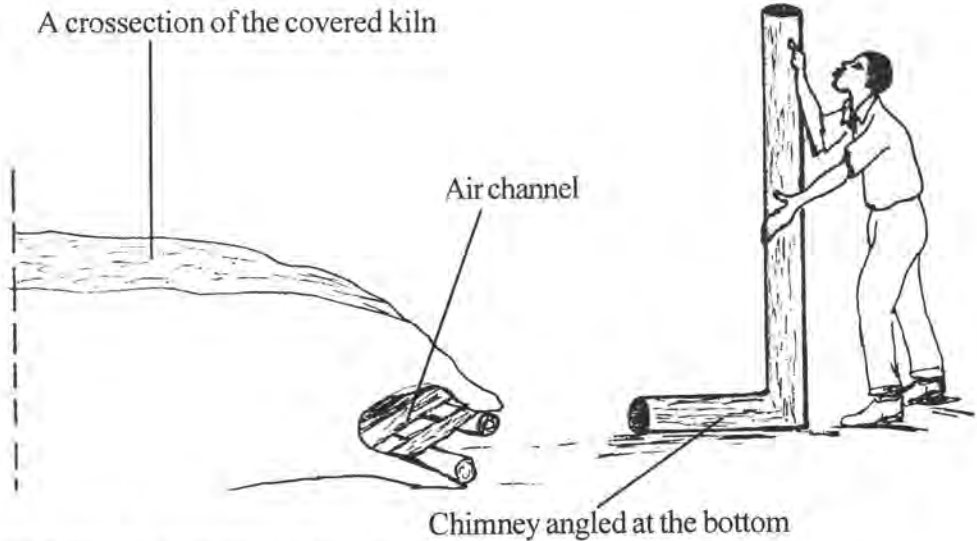

Figure 5.5: *The chimney is placed at one end of the air channel*
6. Place the chimney at one end of the the kiln. The chimney is angled at the bottom end to connect into the air channel (Figure 5.5). The angled extension is 1m long